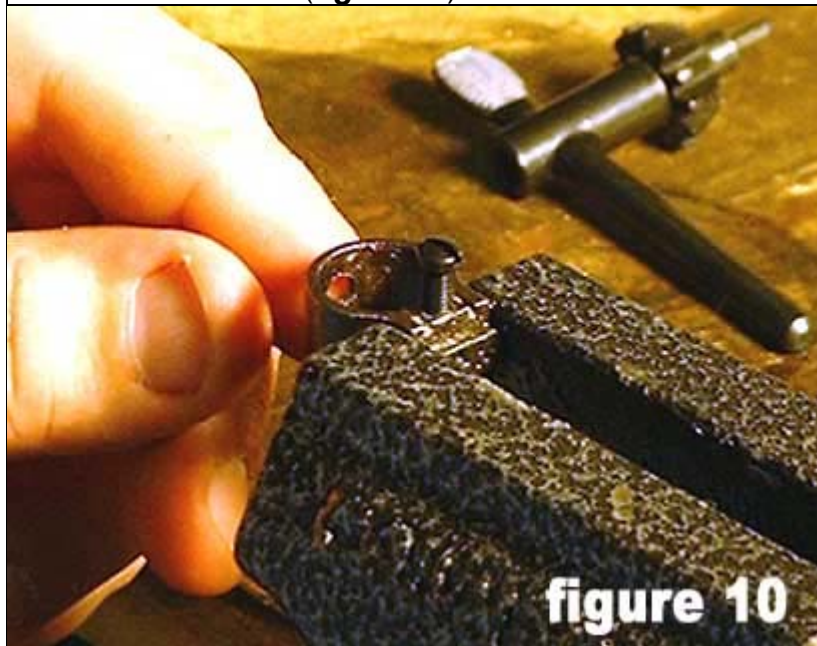

figure 10
5) Now, you will proceed to tap the hole you just drilled (*in Step 4*) with a 6-48 tap. The 6-48 tap allows you to use a very common scope base plug screw as your set screw, and I believe most of us will probably have some of these. However if you have a short 6-48 hex-type set screw it would be even better but the more common slotted one will work (*figure 10*).